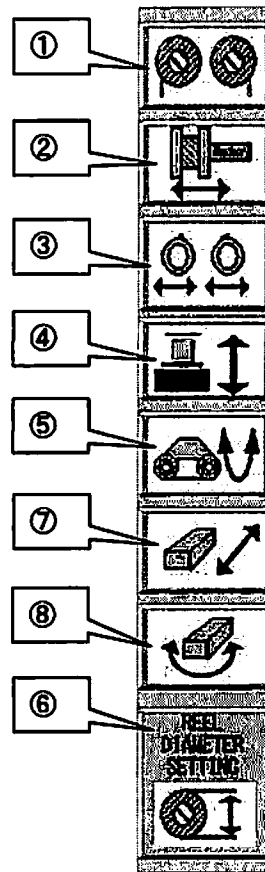

Fig. 14-4-6(3). Manual screen common parts jumped page
- ① . . . Reel L servo ON/OFF switch
- ② . . . Reel R servo ON/OFF switch
- ③ . . . Tensioner L present value
- ④ . . . Tensioner R present value
- ⑤ . . . Traverse L position
- ⑥ . . . Traverse R position
- ⑦ . . . Rocking angle monitor
- ⑧ . . . Rocking speed monitor
- ⑨ . . . Up and down level monitor
- ⑩ . . . Up and down speed monitor
(2) Jumped page . . . Refer to enlarged view shown in Fig 14-4-6(3).